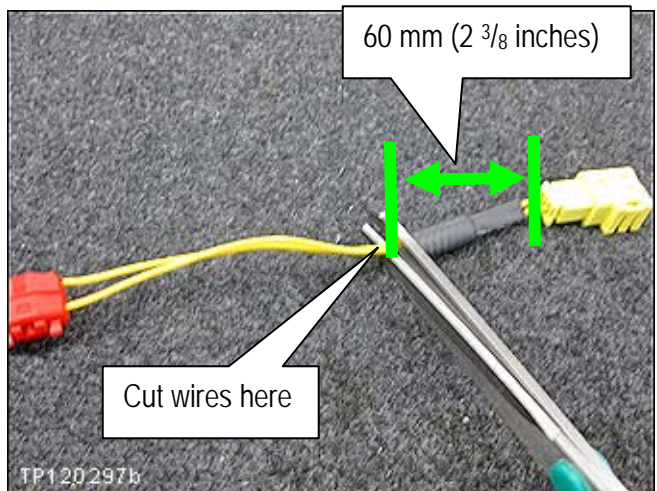

Figure CR11
8. Cut the SAB harness wires 60 mm ( $2\frac{3}{8}$  inches) from the back side of the SAB connector (see Figure CR11).